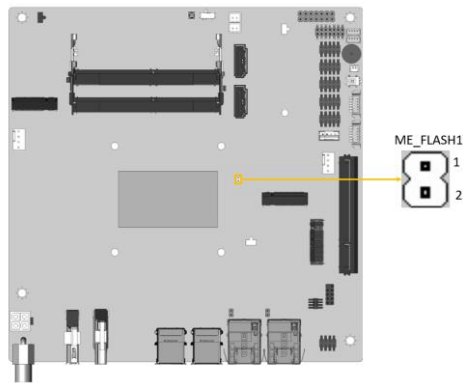

Figure 4-6: Flash Descriptor Security Override Jumper Location
- CN Location:** See **Figure 4-6**
The Flash Descriptor Security Override jumper (ME_FLASH1) allows to enable or disable the ME firmware update. Refer to **Figure 4-6** and **Table 4-2** for the jumper location and settings.